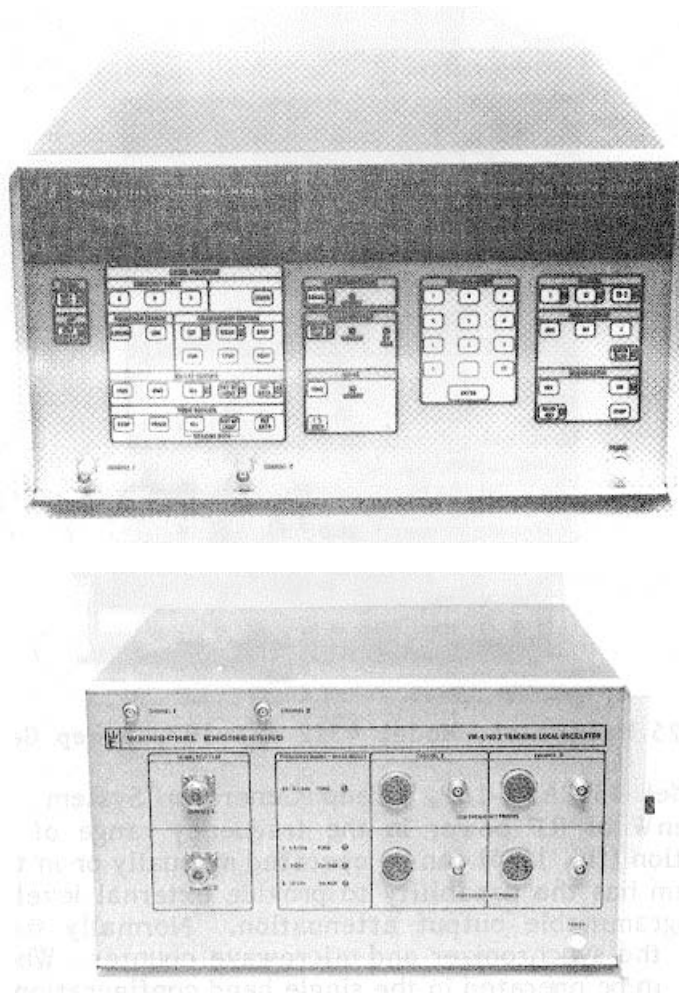

Figure 1-76. Weinschel, Model VM4A, Attenuator and Signal Generator Calibration System.
Weinschel, Model VM4A, Attenuator and Signal Generator Calibrator System (fig. 1-76), is a broad-band, dual channel vector voltmeter. The system has a frequency range of 10 MHz to 18 GHz and an attenuation range of -120 dB reference to 0 dBm. The VM-4A (fig. 1-76, item 1) contains the main microprocessor, controller subsystem, front panel keyboard and display unit. The VM-4A/HO-2 (fig. 1-76, item 2) contains the tracking oscillator, phased-locked loop subsystem and 30 MHz self-test module. When the VM4A is used with model 4312A/K-16P microwave system, it serves as the buss controller. Programming is accomplished by model VM4A front panel controls.